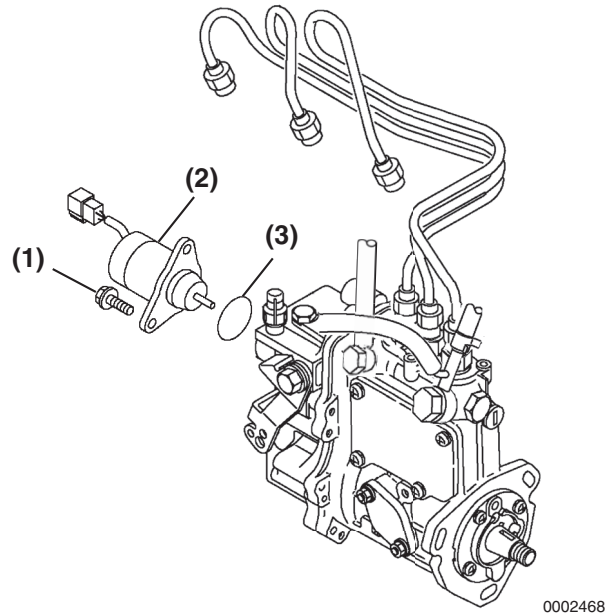

Figure 7-22
3. Remove two screws (**Figure 7-22, (1)**). Remove the stop solenoid (**Figure 7-22, (2)**) and O-ring (**Figure 7-22, (3)**).